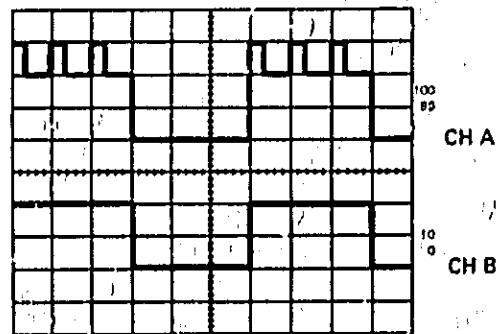

Figure 3-18. Common-Mode Signals
b. Apply signal similar to unwanted component to channel B INPUT **45** (figure 3-18).